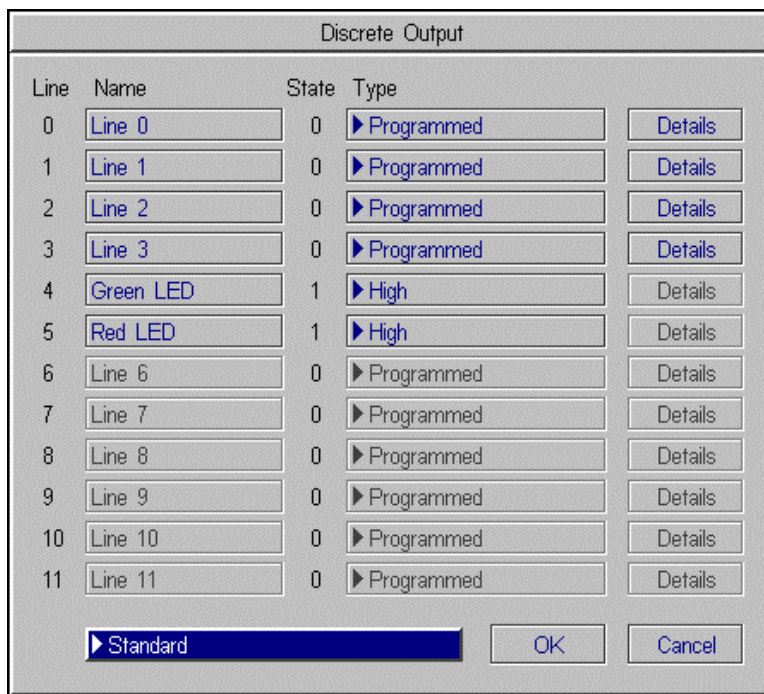

Figure A-3: Discrete Output Dialog, Default Configuration
5. Select Discrete Output to open the Discrete Output dialog (Figure A-3).